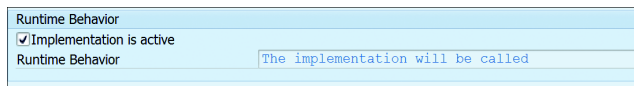

Figure 20.45 Implementation Is Active
- Once the method is implemented, activate the method and come back to the ENHANCEMENT IMPLEMENTATION screen. At this point, you should see a message indicating that the implementation will be called (see Figure 20.45).